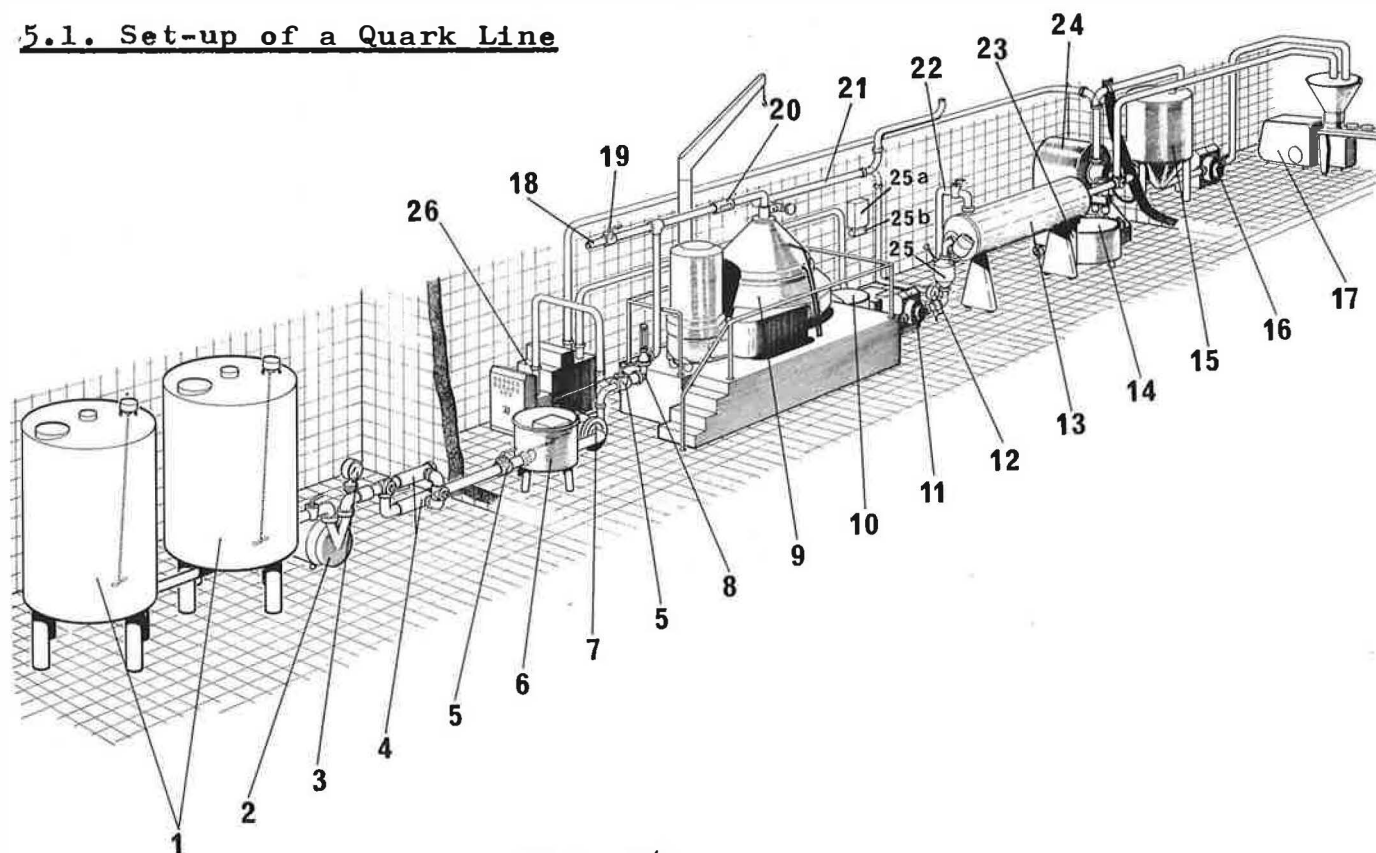

Fig. 5/1
5.3. Production of cream-enriched or normal quark (fig. 5/1)
It is recommended to install a moisture meter (see item 25 in fig. 5/1) in feed line to cooler.